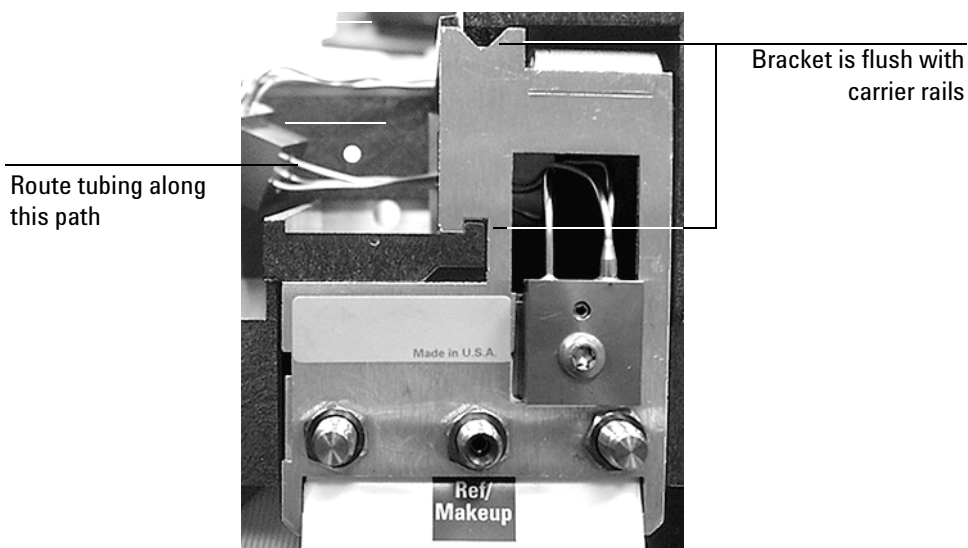

Figure 2. Manifold, after installation
2. Route the ribbon cable behind the manifold assembly as shown in Figure 1. Slide the manifold and bracket assembly into the slot until the bracket seats flush against the end of the rails. See Figure 2.